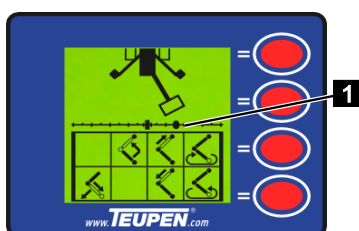

Fig. 143
- The display shows (Fig.143).